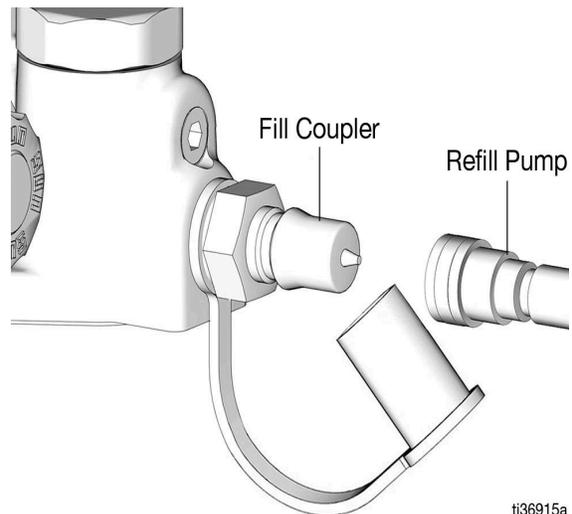

FIG. 2
1. Connect the refill pump to the fill coupler (FIG. 2).